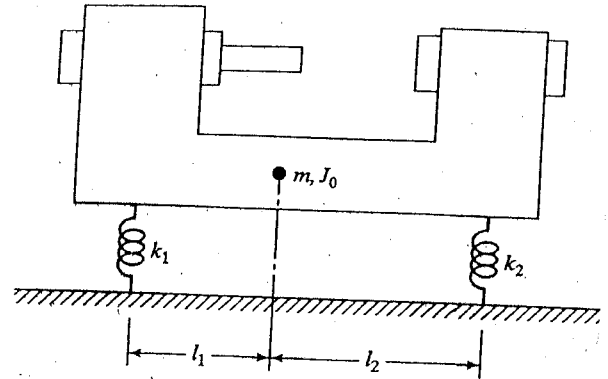

FIGURE 5.19
- 5.4 A machine tool, having a mass of $m = 1000$ kg and a mass moment of inertia of $J_0 = 300$ kg-m², is supported on elastic supports, as shown in Fig. 5.19. If the stiffnesses of the supports are given by $k_1 = 3000$ N/mm, and $k_2 = 2000$ N/mm, and the supports are located at $l_1 = 0.5$ m and $l_2 = 0.8$ m, find the natural frequencies and mode shapes of the machine tool.